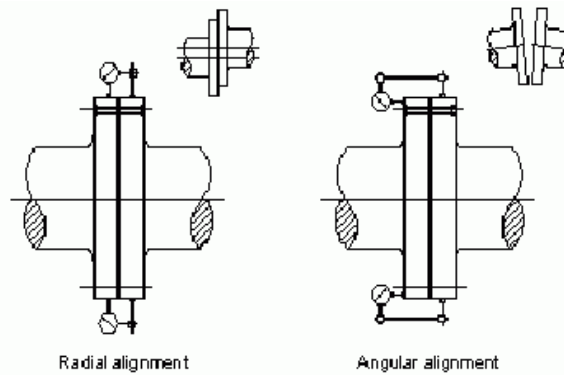

Figure 3-5. Alignment check with gauges
1. Mount the alignment equipment. If gauges are used, it is practical to adjust the dial gauge in such a way that approximately half of the scale is available in either direction. Check the rigidity of the gauge brackets in order to eliminate the possibility of sag, see *Figure 3-5. Alignment check with gauges*.